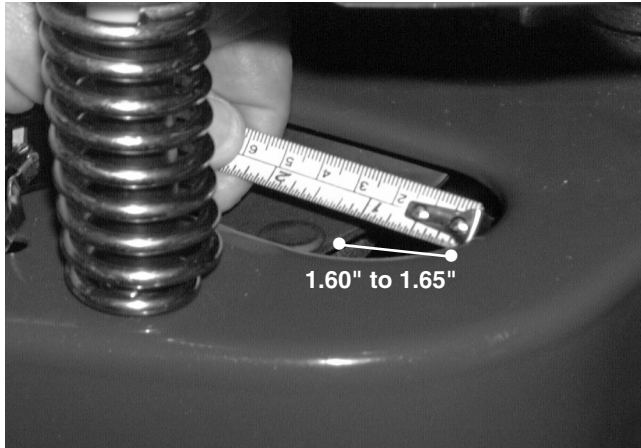

FIGURE 7.
- 23). With a partner applying 10 pounds of force to the variable pedal assembly, measure the distance between the edge of the weld pin head and the right inside edge of the oval extrusion. –The measurement will be between 1.60" and 1.65". See Figure 7.